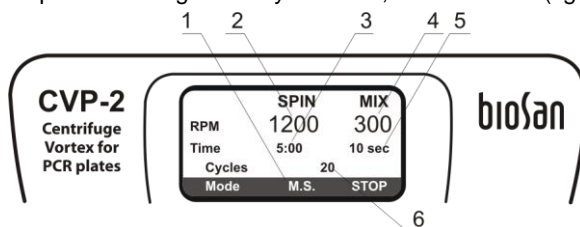

Fig. 4. Centrifugation + vortexing
- 4.9.1. Select the alternating centrifugation and vortexing algorithm (indication **M.S.** of **Mode** parameter, fig. 4/1).
- 4.9.2. Set the required centrifugation speed, from 300 to 1500 rpm (increment 100 rpm, fig. 4/2)
- 4.9.3. Set the required centrifugation time, from 1 s to 30 min (increment 1 s, after 1 min - 1 min, fig. 4/3).
- 4.9.3. Set the required vortexing speed, from 300 to 1200 rpm (increment 100 rpm, fig. 4/4).
- 4.9.4. Set the required vortexing time, from 1 to 60 s (increment 1 s, fig. 4/5).